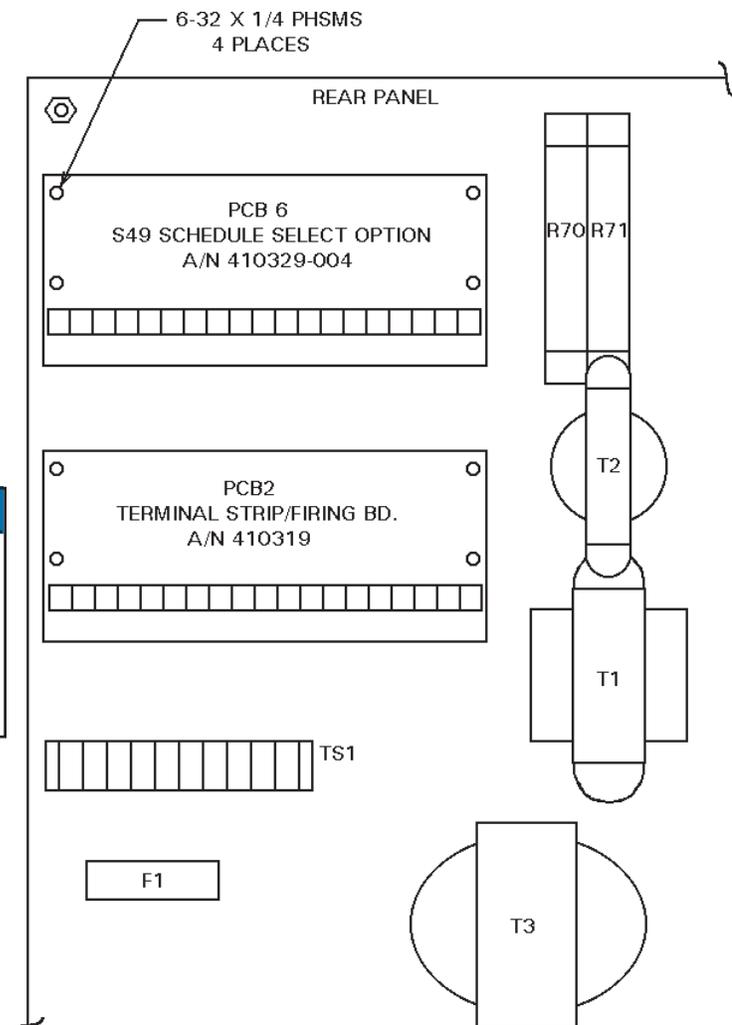

Figure 5-1. Mounting detail for “T/D” or “L” Cabinet
2. Mount the S49 Option PCB (A/N 410329-004) to standoffs on rear panel using four (4) 6-32 x 1/4 PHSMS, Phil., Brite (see Figure 5-1).